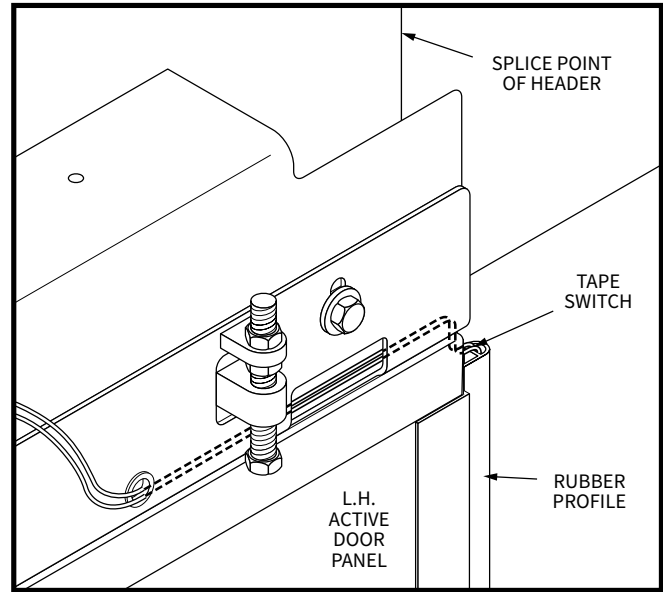

Figure 25: Testing The Reversing Edge
7. Test the reversing edge on the active door panel while the door closes by pushing on the rubber profile (Figure 25). The door should stop and reverse when the edge is activated during the closing cycle.